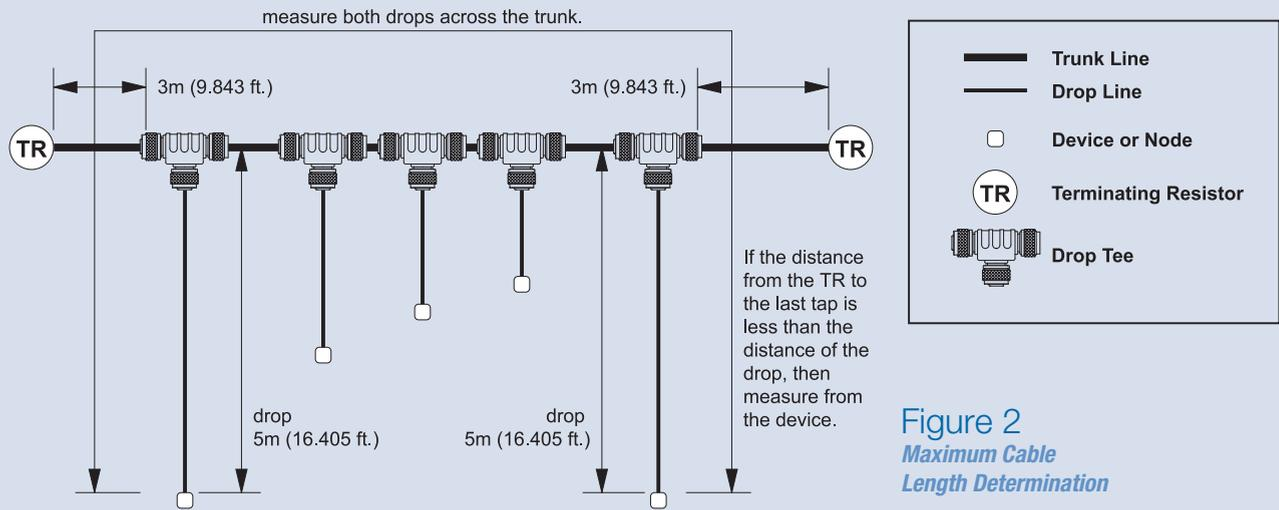

Figure 2
For most cases, the maximum distance should be measured between termination resistors. However, if the distance from a trunk line tee to the farthest device connected to the trunk line is greater than the distance from the tee to the nearest terminating resistor (TR), then you MUST include the drop line length as part of the cable length in your maximum cable distance calculation. Figure 2 shows an example where both 5 meter drops must be included in the maximum cable distance since the drops are longer than the distance from the tee to termination resistor.